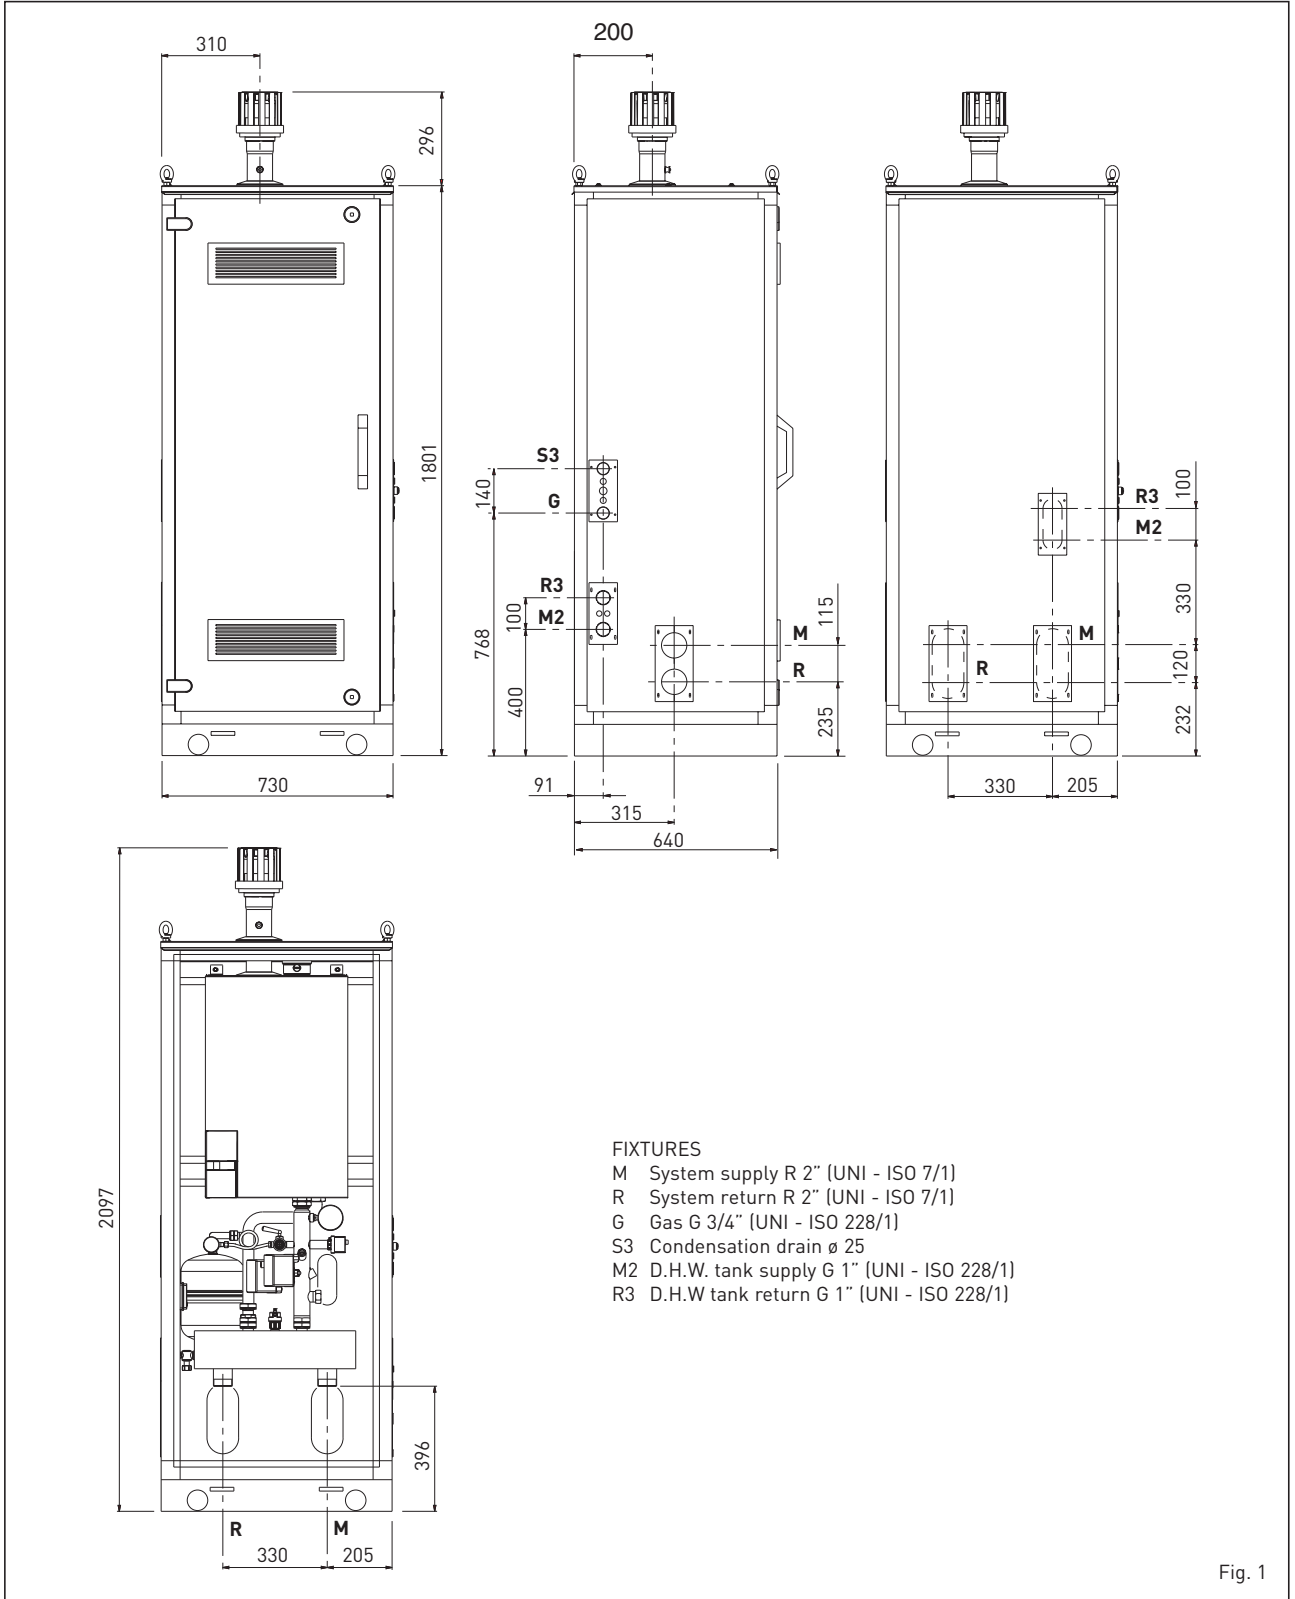

Fig. 1
1.2 DIMENSIONS MODULES (fig. 1)